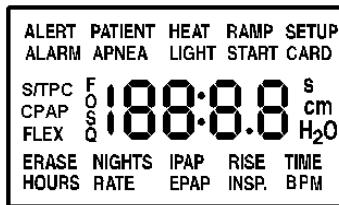

Figure 6-1 Self Test Screen
- a. The first screen that appears is the Self Test screen, shown in Figure 6-1. This is the internal test performed by the device.